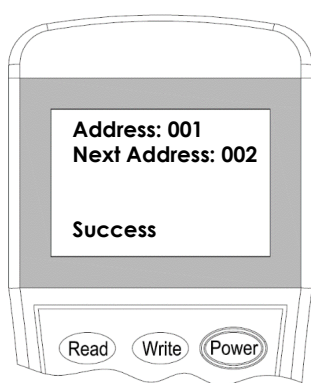

Figure 6
3. Input the desire device address value from 1 to 254, and then press **"Write"** to save the new address (Figure 6).